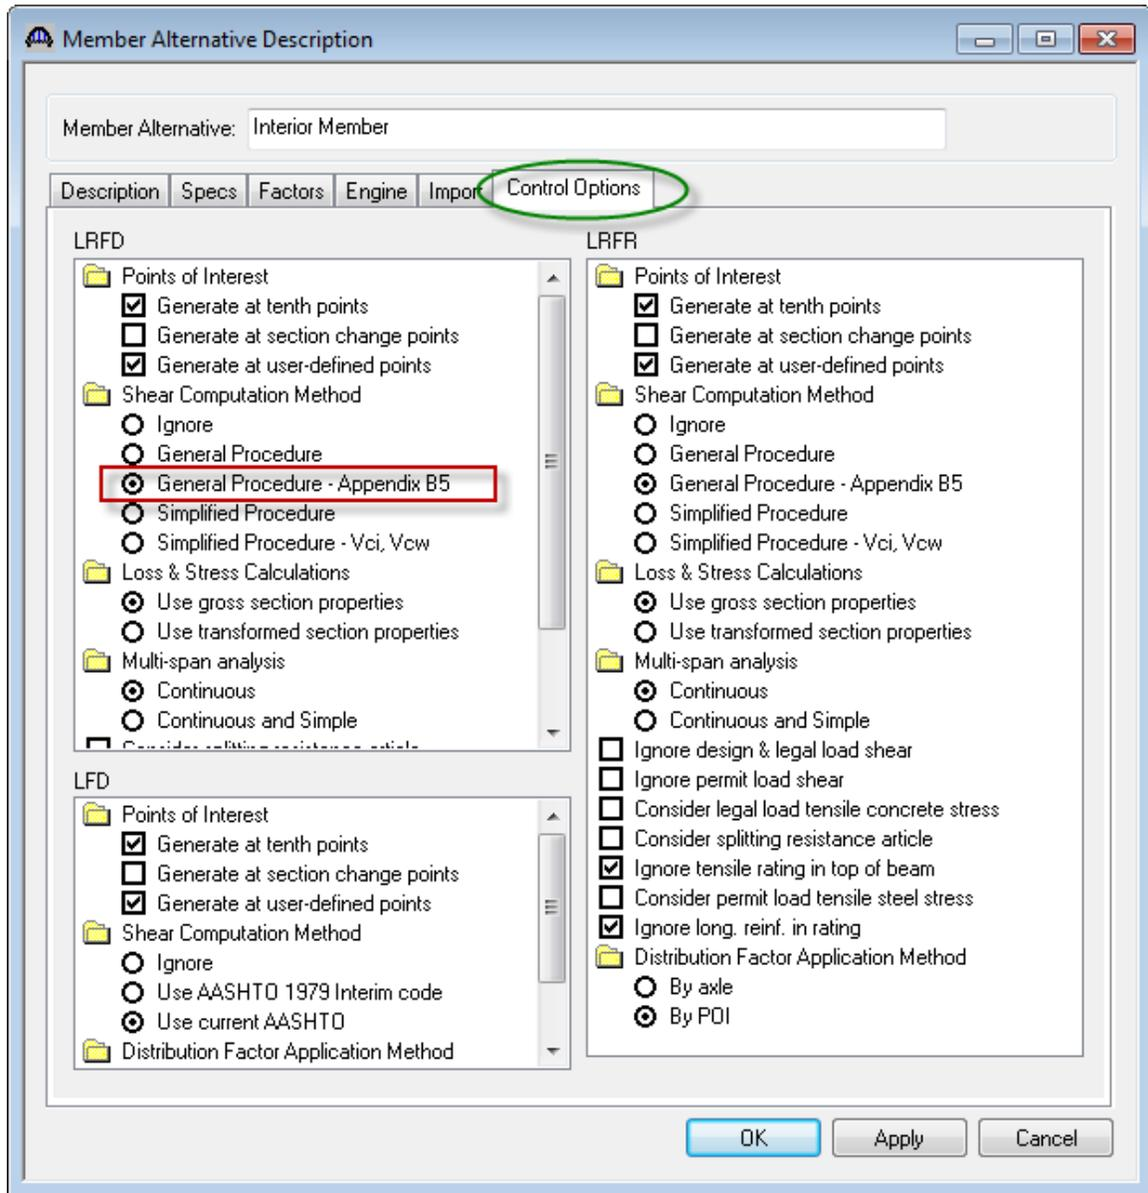

Fig 3. Member Alternative Description Window - Control Options Tab
Double click on “Interior Member (E) (C)” to open Member Alternative Description window. On this window go to Control Options tab (Fig 3). On this Control Options tab under LRFD settings, General Procedure – Appendix B5 is selected as Shear Computation Method. Now click on “Cancel” button to close window.